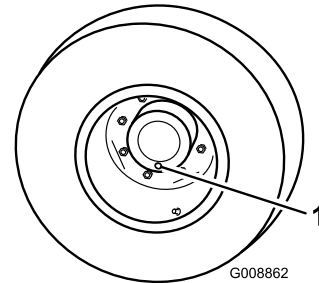

Figure 67
1. With machine on level surface, position a wheel so one of the check/drain plugs is at the lowest (6 o'clock) position (Figure 67).